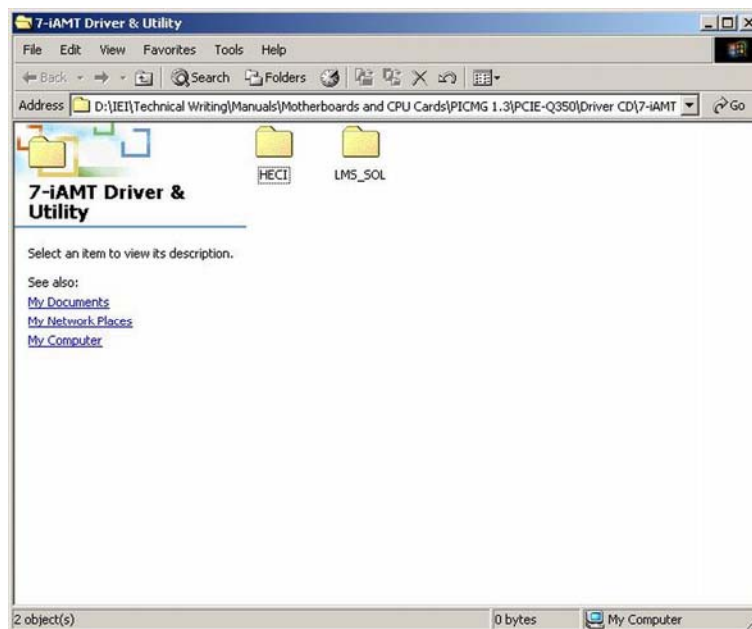

Figure 7-55: IAMT Driver Directory
Step 20: The screen in **Figure 7-55** appears.